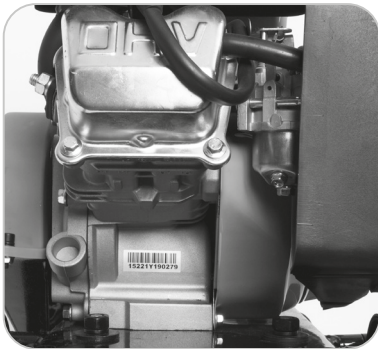

Fig. 14
- Remove the oil drain plug so that the oil can drain completely from the engine. (**Fig. 14**)